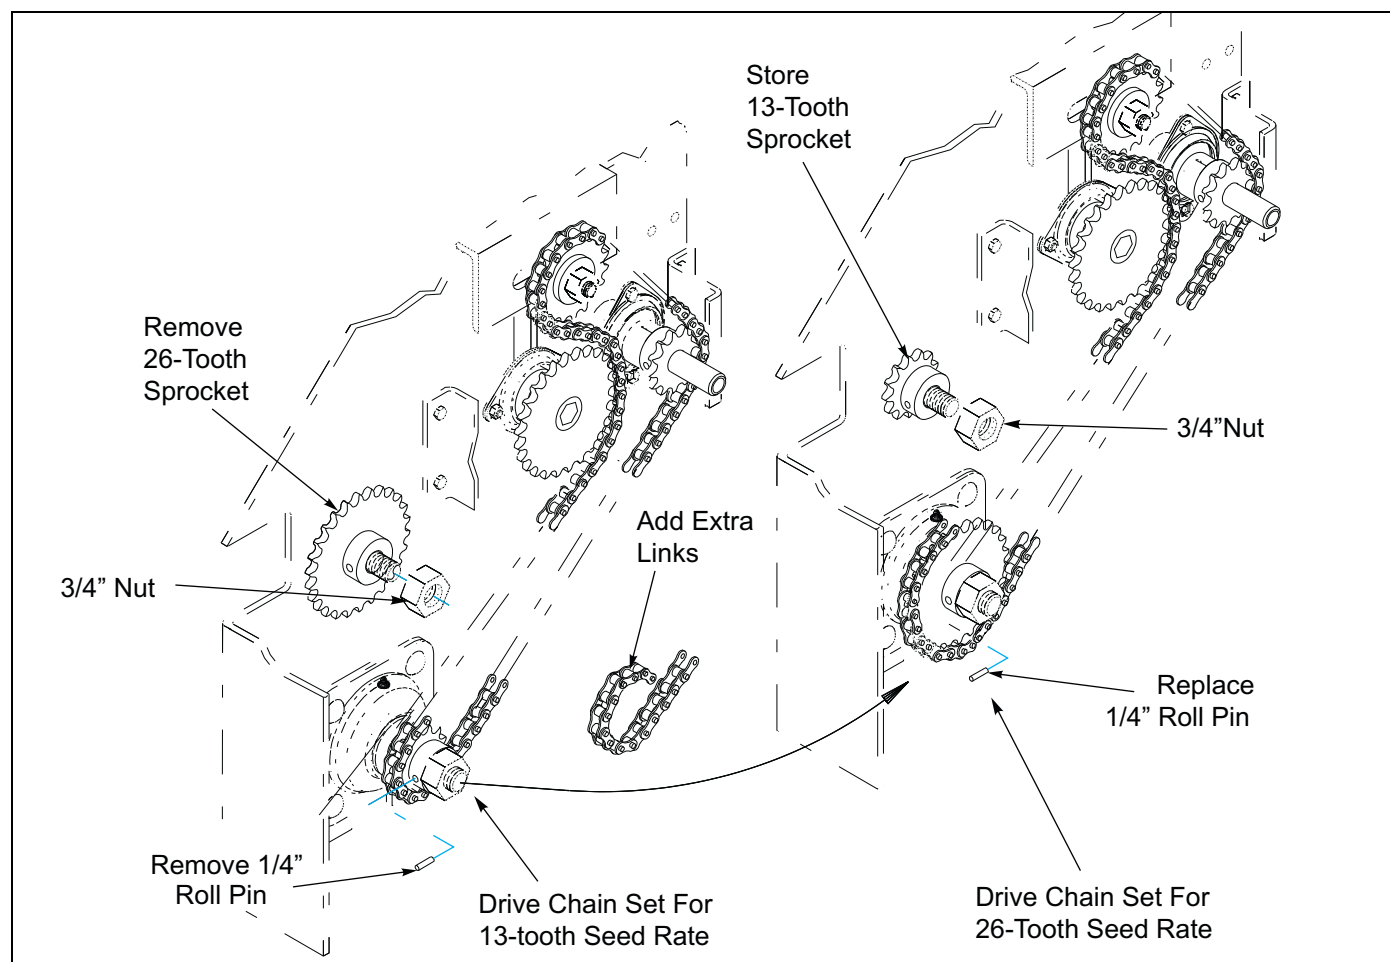

Figure 2-9: Doubling the Seed Rate
3. Remove 1/4" roll pin in 13-tooth sprocket and 3/4" nut on 26-tooth sprocket. See Figure 2-9.